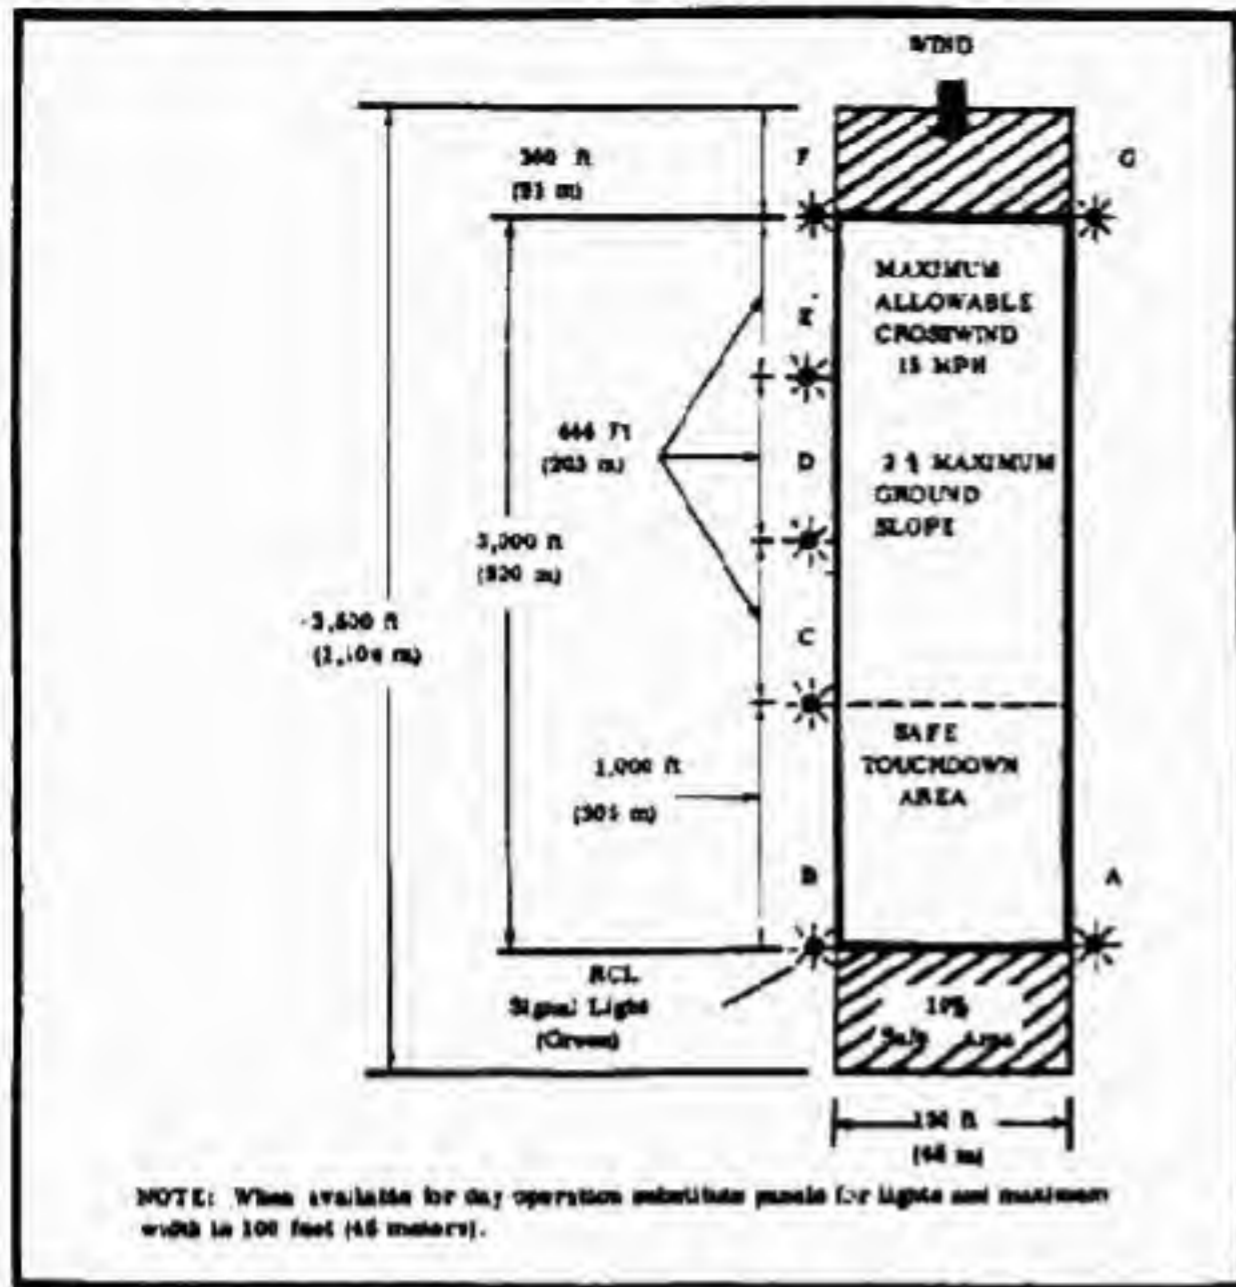

Figure 12. Landing zone (and) medium aircraft (night operations).
(2) Weather. Prevailing weather in the landing area should be favorable. In particular, there must be a determination of wind direction and velocity, and of conditions restricting visibility such as ground fog, haze, or low-hanging cloud formations.
(3) Size. The required size of LZ's varies according to the aircraft used. Safe operations require the following minimum dimensions (Figures 12 and 13).